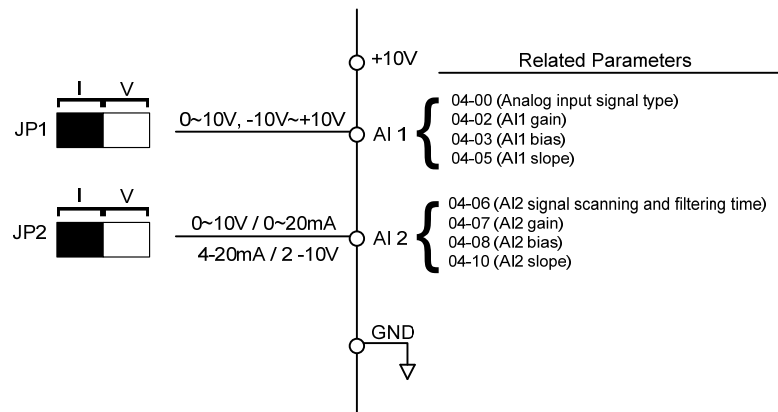

Figure 4.3.35 Analog inputs and related parameters
- (1) Analog input level adjustment AI1/AI2(04-02, 04-03,04-07, 04-08)
- Analog input signal AI1 can be adjusted with parameter 04-02 and 04-03. Analog input signal AI2 can be adjusted with parameter 04-07 and 04-08.Refer the figure 4.3.35 ◦